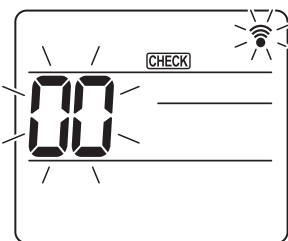
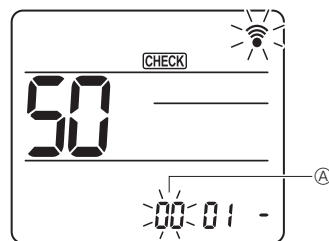
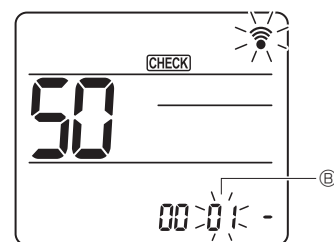
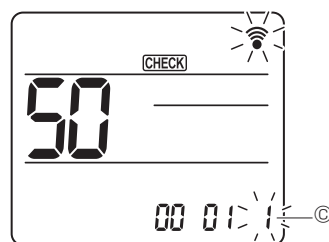

Fig. 7-16
Fig. 7-17
Fig. 7-18
Fig. 7-19
#### 7.4.2. By wireless remote controller (Fig. 7-16, Fig. 7-17, Fig. 7-18, Fig. 7-19)
- ① Going to the function select mode
- [CHECK] is lighted and "00" blinks. (Fig. 7-16)
- ② Setting the unit number
- Press the [01] button to set unit number ①. (Fig. 7-17)
- ③ Select a mode
- Press the [50] button to set Mode number ②. (Fig. 7-18)
- ④ Selecting the setting number
- Use the [01] button to change the Setting number ③. (Fig. 7-19)
- ⑤ To select multiple functions continuously
- Repeat select ③ and ④ to change multiple function settings continuously.
- ⑥ Complete function selection